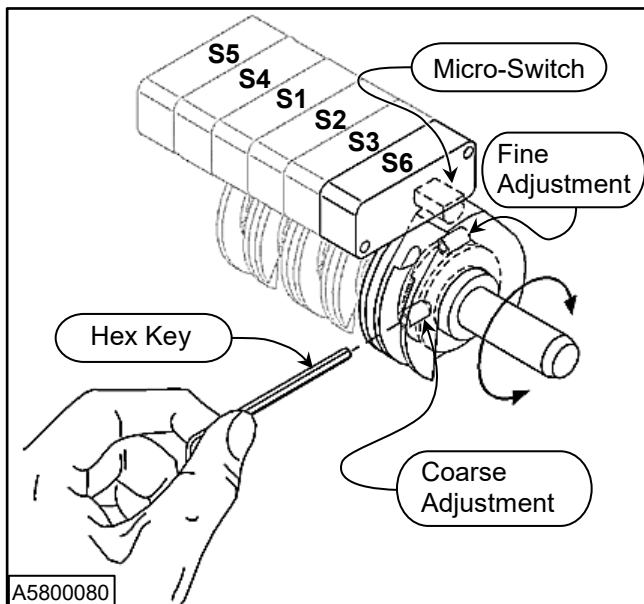
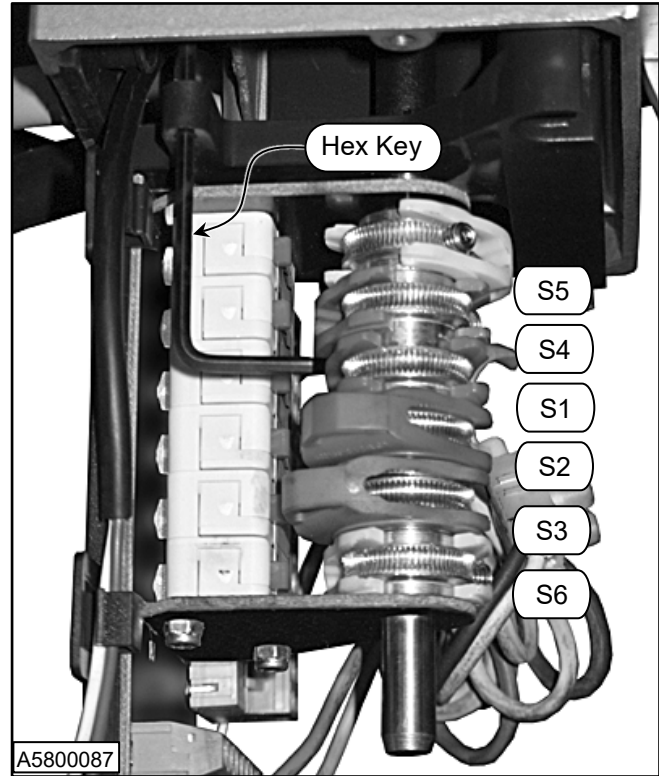

Figure 29
Figure 30
2. Rotate the open-limit cam switch (S3) clockwise until you hear the micro-switch click, and tighten the coarse adjustment locking set screw using the supplied hex key. (See Figure 29 & Figure 30)
3. Rotate the safety close-limit cam switch (S1) clockwise until you hear the micro-switch click. (See Figure 29 & Figure 30)
5. Rotate the close-limit cam switch (S4) clockwise until you hear the micro-switch click, and tighten the coarse adjustment locking set screw using the supplied hex key. (See Figure 29 & Figure 30)
6. Rotate the safety close-limit cam switch (S2) clockwise until you hear the micro-switch click. (See Figure 29 & Figure 30)